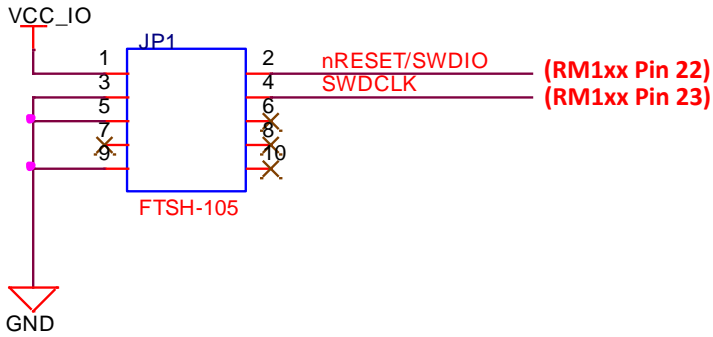

Figure 8: Wiring for 2-Wire SWD Programming/Debug Interface connector to SWD Programming/Debug interface on RM1xx module
**Note 1:** Reference the RM1xx development board schematic. Figure 8 shows the wiring for the 2-Wire SWD Programming/Debug Interface connector and RM1xx module hidden 2-Wire SWD Programming/Debug Interface pins.